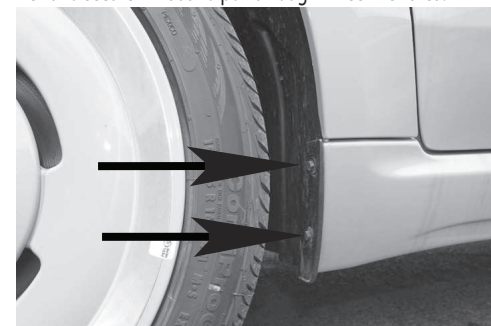
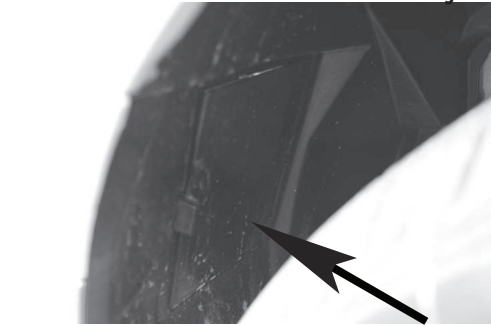

Figure 7
Figure 8
10. At front driver's side wheel well remove 2 bolts using a 8mm socket shown in **Figure 7**. Remove access cover from driver's side wheel well shown in **Figure 8**. Route fish tape up and over wheel well and secure 4-Flat and pull through wheel well area.